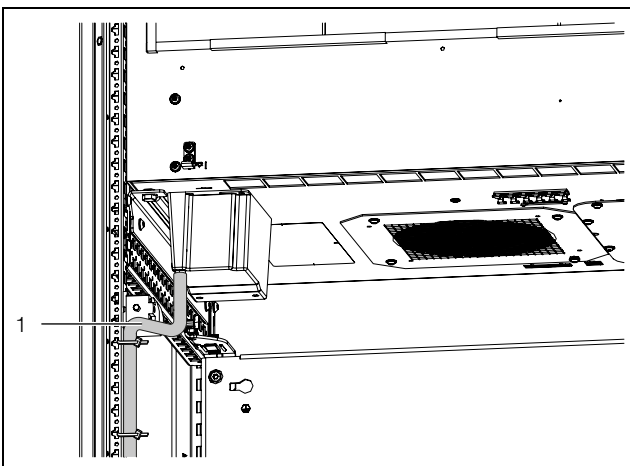

Fig. 12: Laying the hose (sample representation)
- When the integration solution is located on the VX base/plinth system available as accessory: route the discharge hose downwards in accordance with the above-mentioned notes through the base from the enclosure (fig. 12).